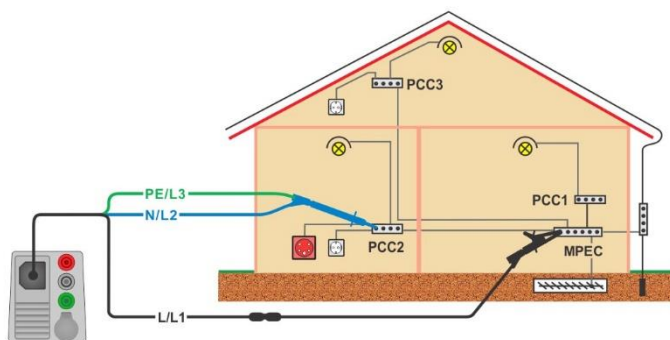

Figure 7.22: Connection of 3-wire test lead plus optional Extension lead
- › Connect test leads, see **Figure 7.22**.